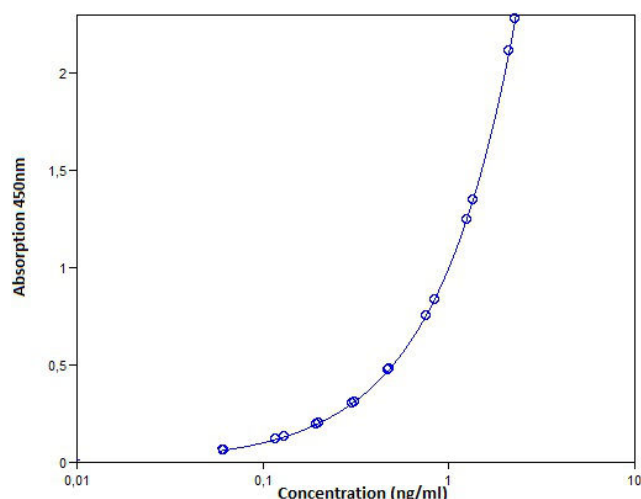

Fig. 9 Representative standard curve for human HSP90 alpha ELISA. Human HSP90 alpha was diluted in serial 2-fold steps in Sample Diluent.
- A representative standard curve is shown in Figure 9.